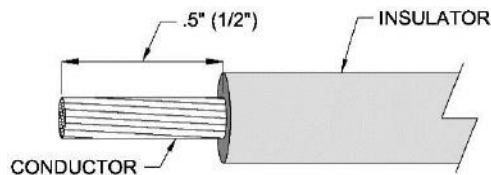

FIG. 14.7
- 14.2.3. Strip the insulator from the internal white, black, green, and red wires to expose 1/2" of the conductor (FIG. 14.7).